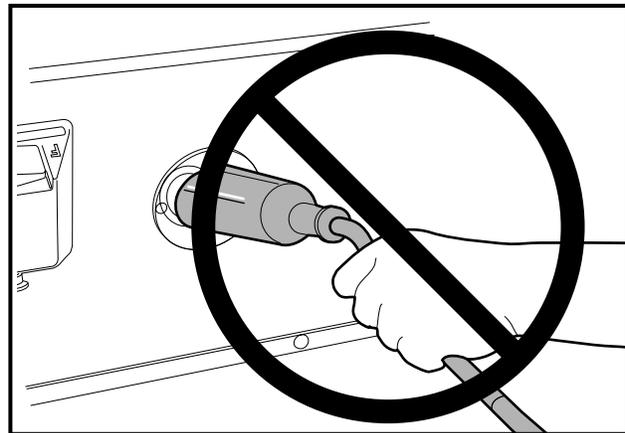

Figure 22 Incorrect Insertion of Charger DC Plug
- Do not pull on the DC cord (Figure 22, Page 36). Do not twist, rock or bend the plug. To disconnect the charger plug from the vehicle receptacle, grasp the plug by the handle and pull the plug straight out of the receptacle.